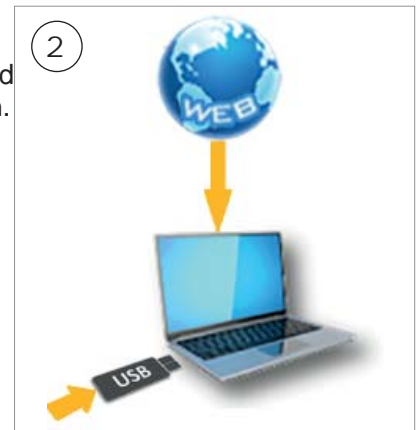

Fig. 20
- 2) Insert the USB PEN DRIVE into a PC connected to the internet (Fig. 20).